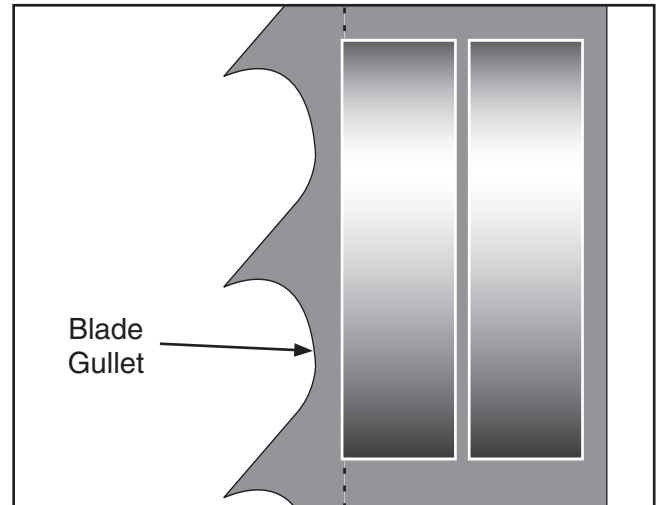

Figure 24. Lateral adjustment of blade guides.
4. Loosen the lateral adjustment rod cap screw, loosen the support bearing adjustment shaft bolt, and adjust the blade guides until the edges of the bearings are $\frac{1}{16}$ " behind the blade gullets, as illustrated in **Figure 24**.